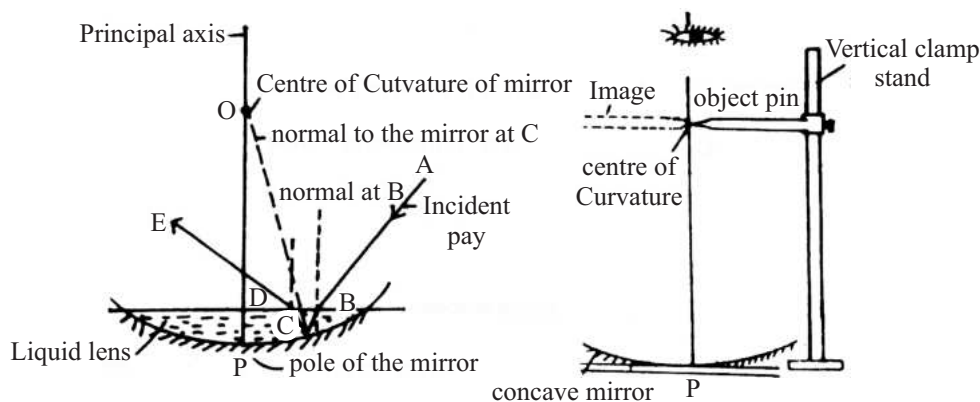

Fig. 18.1: Ray diagram **Fig. 18.2:** Showing the path ABODE of a ray of light
- (ii) Put the vertical clamp stand near the concave mirror and clamp the object pin horizontally in the vertical rod of the stand. Adjust the tip of the object pin just vertically above the centre of the concave mirror as shown in the figure 18.1.